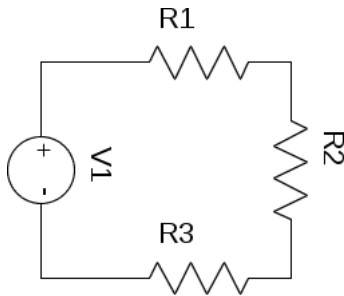

Fig. 1. Schematic
- 2) Using the DMM and its leads, the DC Power Supply and its leads, a breadboard, and the resistors, create the circuit described in Figure 1.